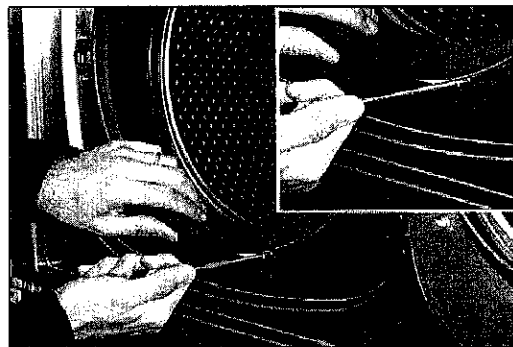

fig. 3
- With the help of a screwdriver, remove the spring clamp that fastens the door gasket. Separate the front panel from the washing machine (*fig. 3*).